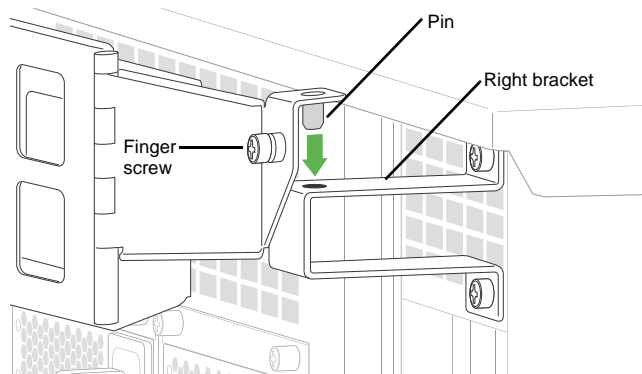

Figure 1.5 Attaching the Cable Arm to the Right Chassis-Attachment Bracket
- b. Attach the cable management arm to the right bracket by inserting the pin on the arm into the hole on the top of the bracket, as shown in Figure 1.5.
- d. Secure the cable management arm to the right bracket by tightening the finger screw on the arm, as shown in Figure 1.5.